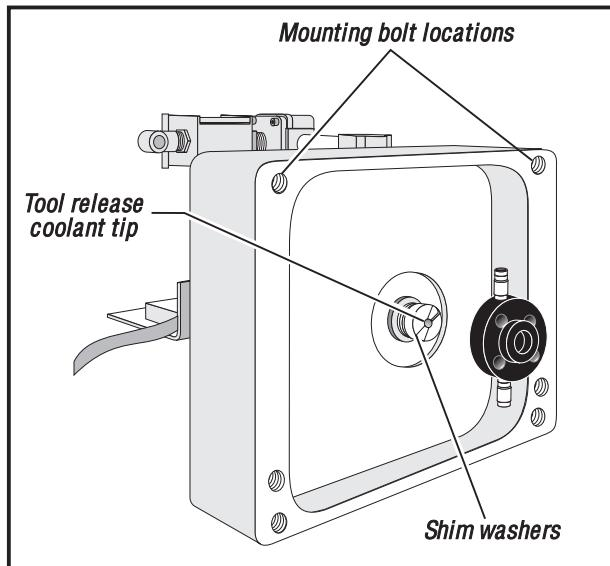

Figure 4. Coolant Tip (TSC machines only).
5. The clearance from the tool holder to the block should be zero (0). To accomplish this, set the jog increments to .001 and jog in the negative (-) Z direction a few increments of the hand wheel at a time. Between these moves, push the tool release button and feel for movement by placing your finger between the tool holder and the spindle. Do this until no movement is felt. You are now at zero (0).
6. Press MDI and turn hand wheel to zero (0). Press HANDLE JOG button. Jog the Z-axis in the positive (+) direction .100".
- If the block is tight at 0.070 or less, the Coolant Tip (Figure 4) must be replaced. Call your dealer for replacement of the Coolant Tip and the seal housing.